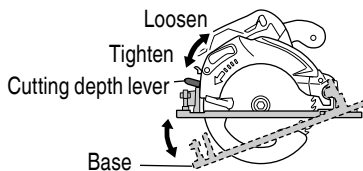

Fig. 12
1. Adjusting the cutting depth (Fig. 12)
If the lever to adjust cutting depth (Fig. 12) is loose, injury can result. Make sure that it is tightened securely.